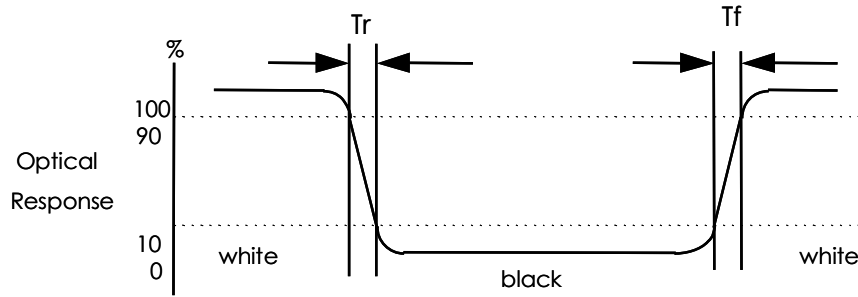

FIG.2. Measuring method for Contrast ratio, surface luminance, Luminance uniformity , CIE (x, y) chromaticity
Note 1. Contrast Ratio(CR) is defined mathematically as For more information see FIG 2.
Note 2. Surface luminance is the LCD surface from the surface with all pixels displaying white. For more information see FIG 2.
Note 3. The uniformity in surface luminance , δ WHITE is determined by measuring luminance at each test position 1 through 5, and then dividing the maximum luminance of 5 points luminance by minimum luminance of 5 points luminance. For more information see FIG 2.